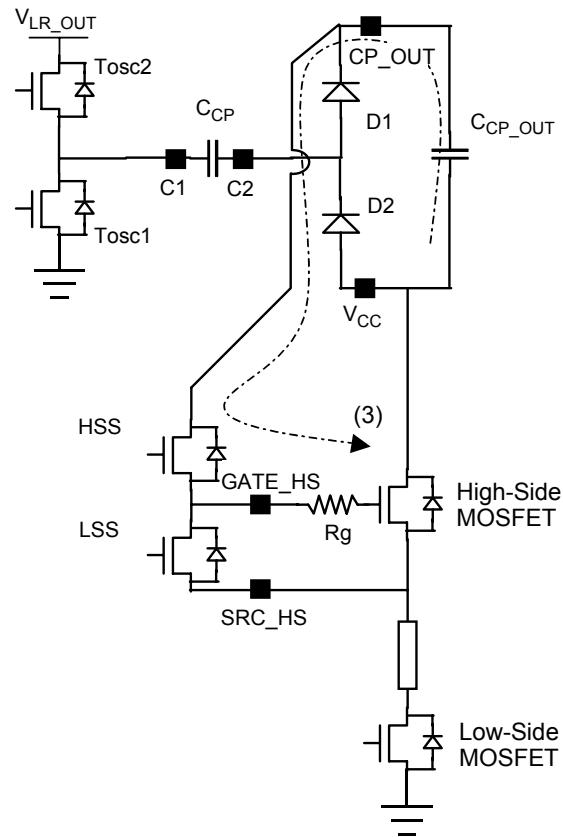

Figure 7. High-Side Gate Driver
Figure 7 represents a simplified circuitry of the high-side gate driver. Transistors T_{osc1} and T_{osc2} are the oscillator-switching MOSFETs. When T_{osc1} is on, the oscillator is at low level. When T_{osc2} is on, the oscillator is at high level. The capacitor C_{CP_OUT} provides peak current to the high-side MOSFET through HSS during turn-on (3).